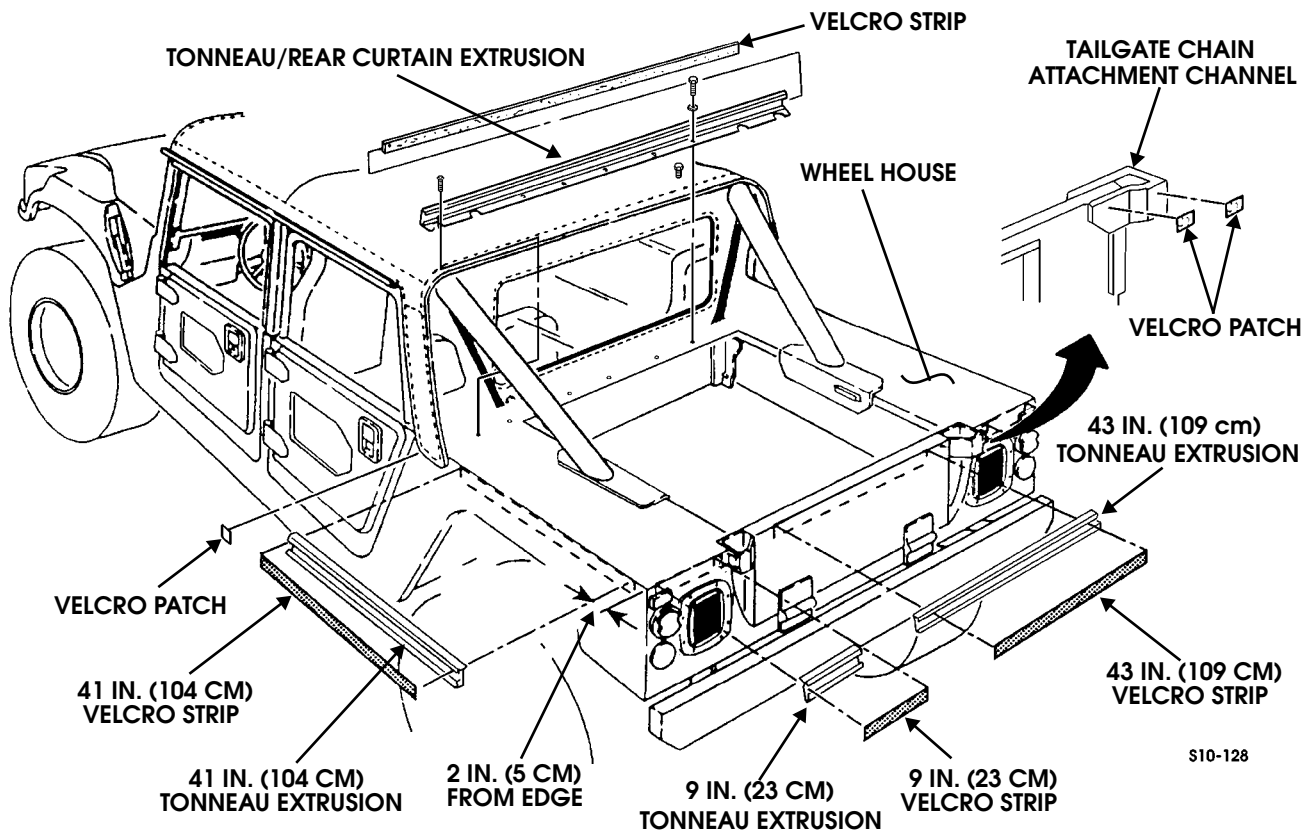

Figure 10-135: Velcro Strip and Patch Removal
4. Remove velcro strips and patches from tonneau area (Figure 10-135).
10. Secure tonneau/rear curtain extrusion to body with five lockwashers, capscrews, and four self-tapping screws (Figure 10-135).